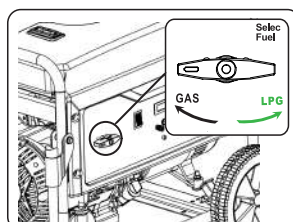

Fig 10
- Turn the fuel selector to "GAS" position (See fig 10)
- Turn the fuel selector to "LPG" position (See fig 10)